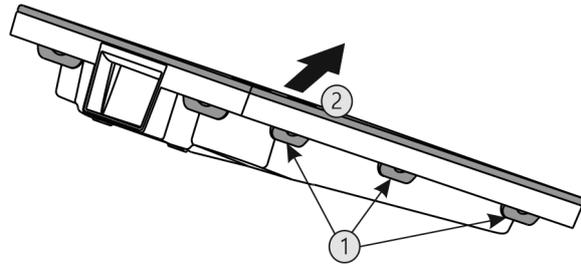

Fig. 42
- ▶ Press all lugs Fig. 42 (1) in succession and remove the lid Fig. 42 (2).